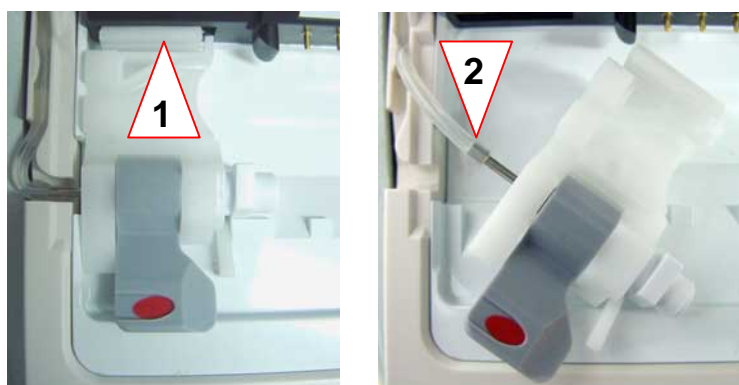

Fig. 3-22 Electrode locking lever
4. Disengage the electrode locking lever at the upper side (see Fig. 3-22, 1).
5. Pull off the tube from the electrode locking lever (see Fig. 3-22, 2).